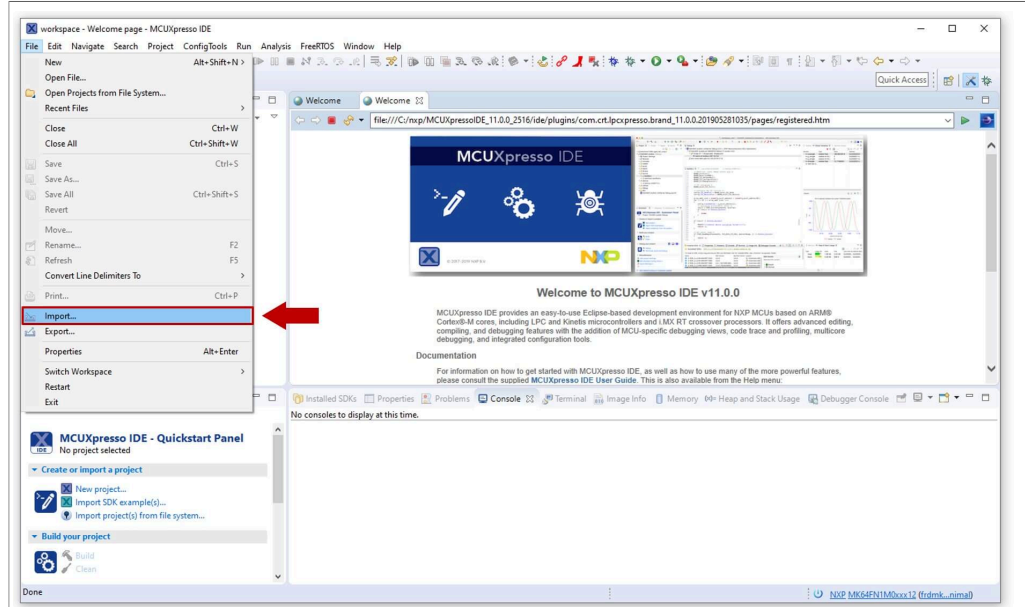

Figure 38. Import a project
1. Go to *File* → *Import* using the top bar menu as shown in Figure 38.